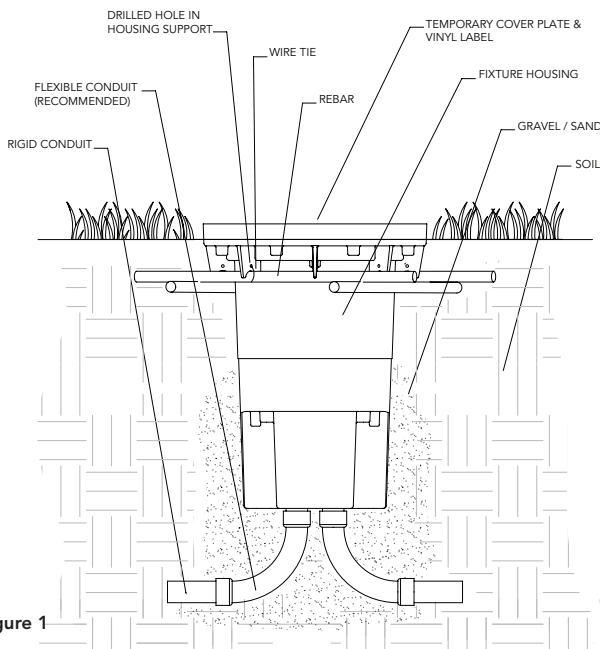

Figure 1
2. Dig hole approximately 15" in diameter to a depth suitable to make top of temporary cover plate 3/4" above grade (see fig. 1). Pea gravel or sand is recommended for seating the luminaire housing.
- NOTE:** For a more secure installation, rebar bracing is recommended. Drill a small hole in the stiffeners located on the side of the luminaire. Position rebar (by others) onto adjacent stiffeners and secure with wire-ties (see fig. 1).